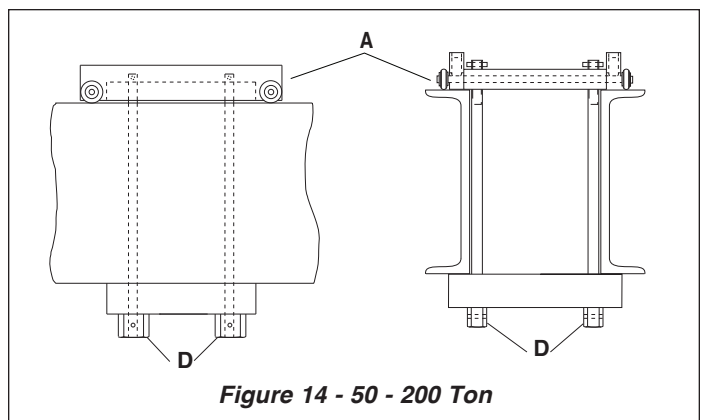

Figure 14 - 50 - 200 Ton
7.3 50-200 Ton Models: see Figure 14